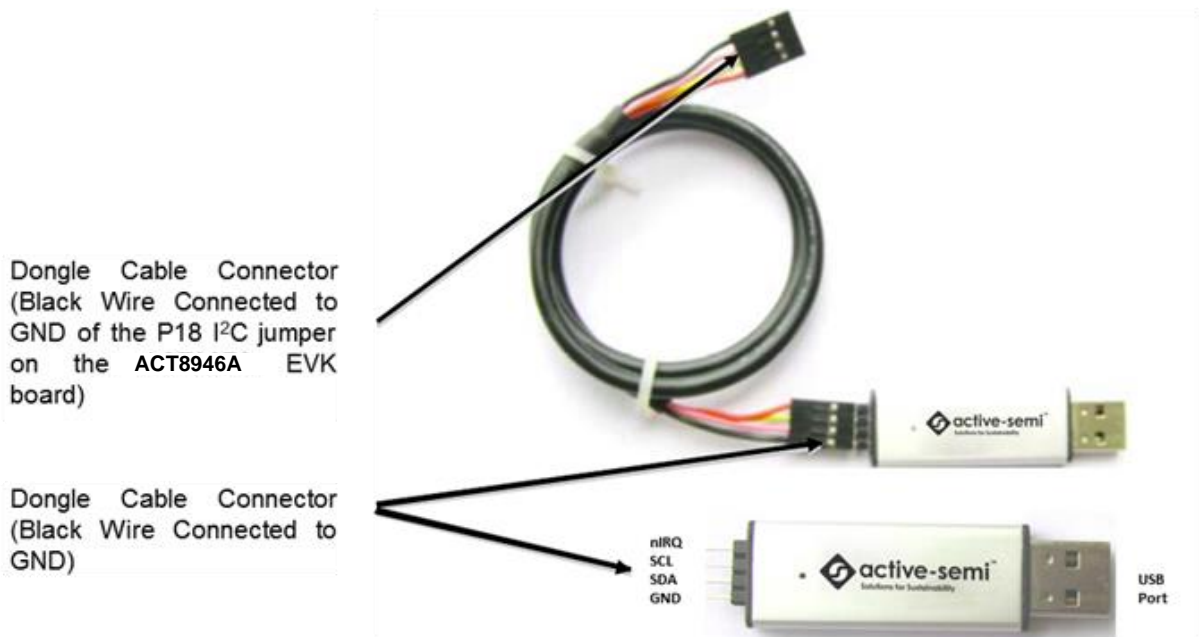

Figure 3 – USB-TO-I2C Dongle Connection
3. Connect the USB-TO-I2C dongle to the EVK J13 connector. Refer to Figure 3 to ensure the correct polarity of the connection. As a guide, use the “Active-Semi” logo on the top of the dongle so the black wire is connected toward the lower left corner of the Dongle.